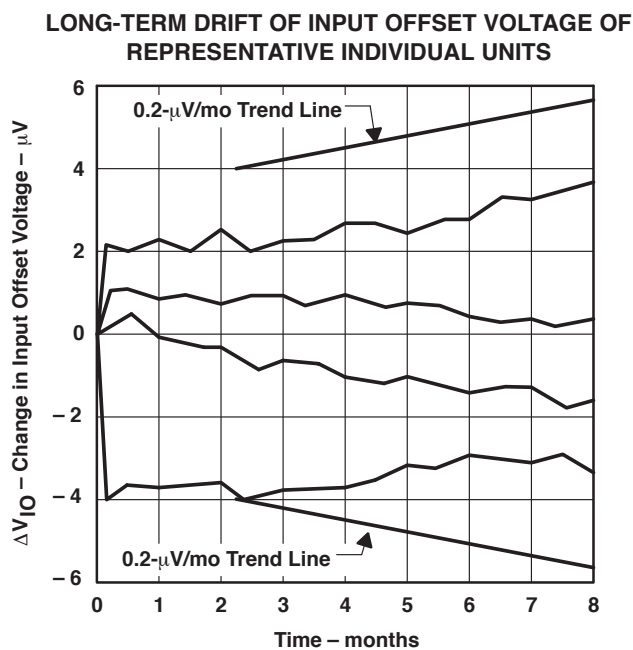

Figure 3
4. Long-term drift of input offset voltage refers to the average trend line of offset voltage versus time over extended periods after the first 30 days of operation. Excluding the initial hour of operation, changes in V_{IO} during the first 30 days are typically $2.5\ \mu\text{V}$ (see Figure 3).